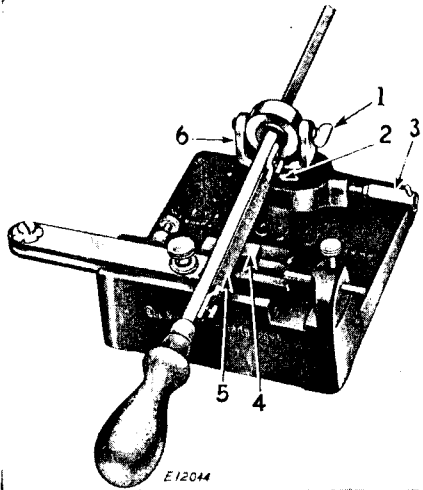

Fig. 23. Setting Hone at Proper Angle
To set the hone at the proper angle, loosen the wing screw (1, Fig. 23), rest the stone (5, Fig. 23) flat on the leveling surface (4, Fig. 23), then tighten the wing screw (1).
Loosen the adjusting screw (3, Fig. 23) and set the yoke (6, Fig. 23) as low as it will go while the end of the adjusting screw (3, Fig. 23) remains on the flat of the yoke bushing (2, Fig. 23), then securely tighten the adjusting screw (3, Fig. 23).